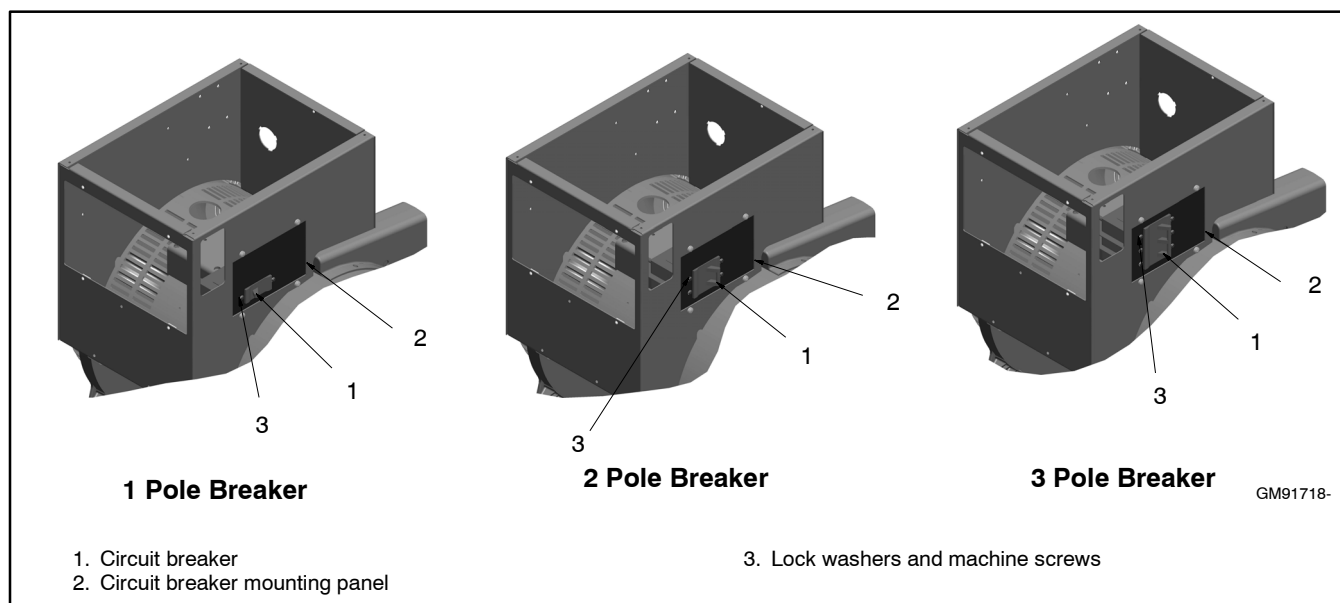

Figure 6-2 Circuit Breaker Mounting, Typical (14- 24EKOZD/12- 20.5EFKOZD Models shown)
4. Install the circuit breaker on the new panel with the screws and washers. Position the ON side of the circuit breaker toward the rear of the junction box. See Figure 6-2.